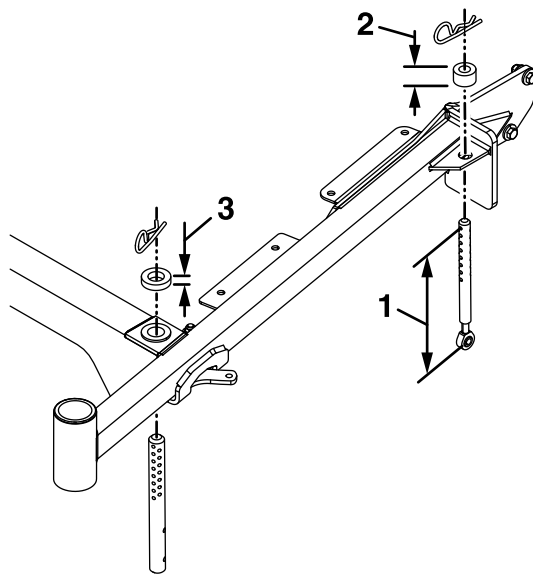

Figure 19
- C. The length of the rear deck support link assemblies average 197 mm (7.76 inches or approximately 7-3/4 inches) from the center of the balljoint to the center of the farthest hole (see Figure 19).